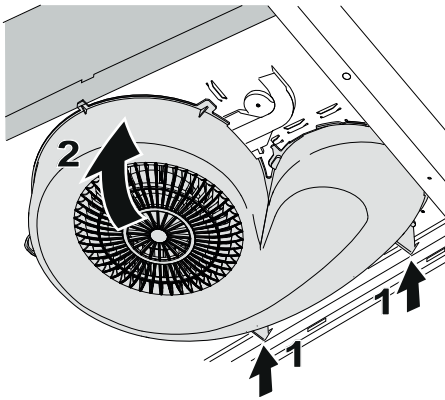

Fig. 7
Refit the blower by inserting the supports in the rear of the fan (1). Bend up the blower (2). Fig. 7